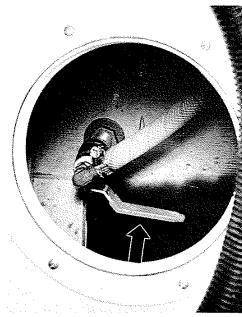

Figure 18
**⚠ CAUTION:** To prevent damage to the boat, close all seacock before leaving the boat. See figure 18. Make sure the "Auto Bilge" switch is in the "On" position.